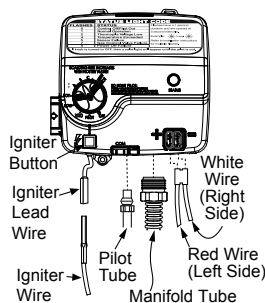
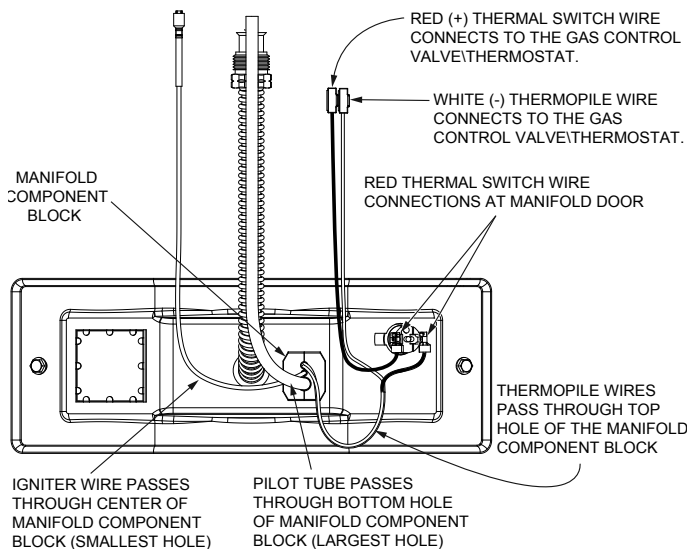

FIGURE 33.
FIGURE 38.
5. Disconnect the pilot tube (7/16" wrench), the igniter wire from the igniter lead wire, and manifold tube (3/4" wrench) at the gas control valve/thermostat. (Figure 33). **NOTE:** L.P. Gas systems use reverse (left-hand) threads on the manifold tube.
6. Disconnect the white and red wires from the gas control valve/thermostat (Figure 33). Use needle nose pliers to grip the connector(s). **IMPORTANT:** Grip the connector carefully to prevent damage. Do not grip or pull the wires themselves.
9. Reinstall the manifold component block in the manifold door (Figure 38).
7. Connect the white and red wires to the gas control valve/thermostat as shown in Figure 33. Also, ensure that the red thermal switch wires are connected to the thermal switch on the manifold door (Figure 38).
8. Reconnect the igniter wire (Figure 33).
4. Disconnect the igniter wire from the igniter lead wire. Use needle nose pliers to disconnect the red (+) and white (-) thermopile wires. Disconnect pilot tube (7/16" wrench) and manifold tube (3/4" wrench) at the gas control valve/thermostat (Figure 33). **NOTE:** L.P. Gas systems use reverse (left-hand) threads on the manifold tube.